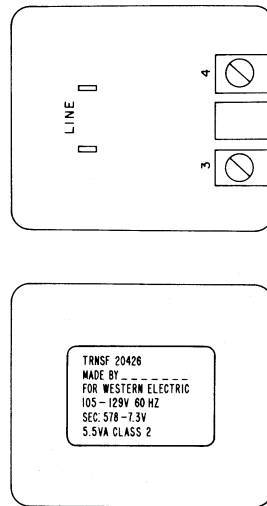

Fig. 12—KS-20426L3 (MD) Transformer Not Manufactured by AULT, INC.
**5. KS-20426L3 (MD) (FIG. 12) TRANSFORMER**
**KS-20426L1 (MD) transformer or the KS-20426L3 (MD) transformers manufactured by other suppliers.**
5.01 The KS-20426L3 transformer (Fig. 12) (not manufactured by AULT, INC.) is intended for use in light systems and is mounted in a 2-wire receptacle. It will power five dial light telephone sets.